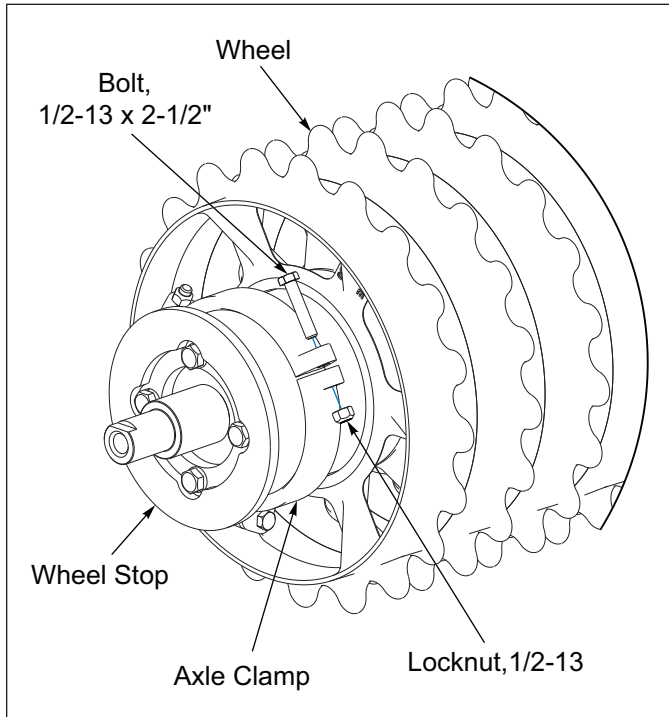
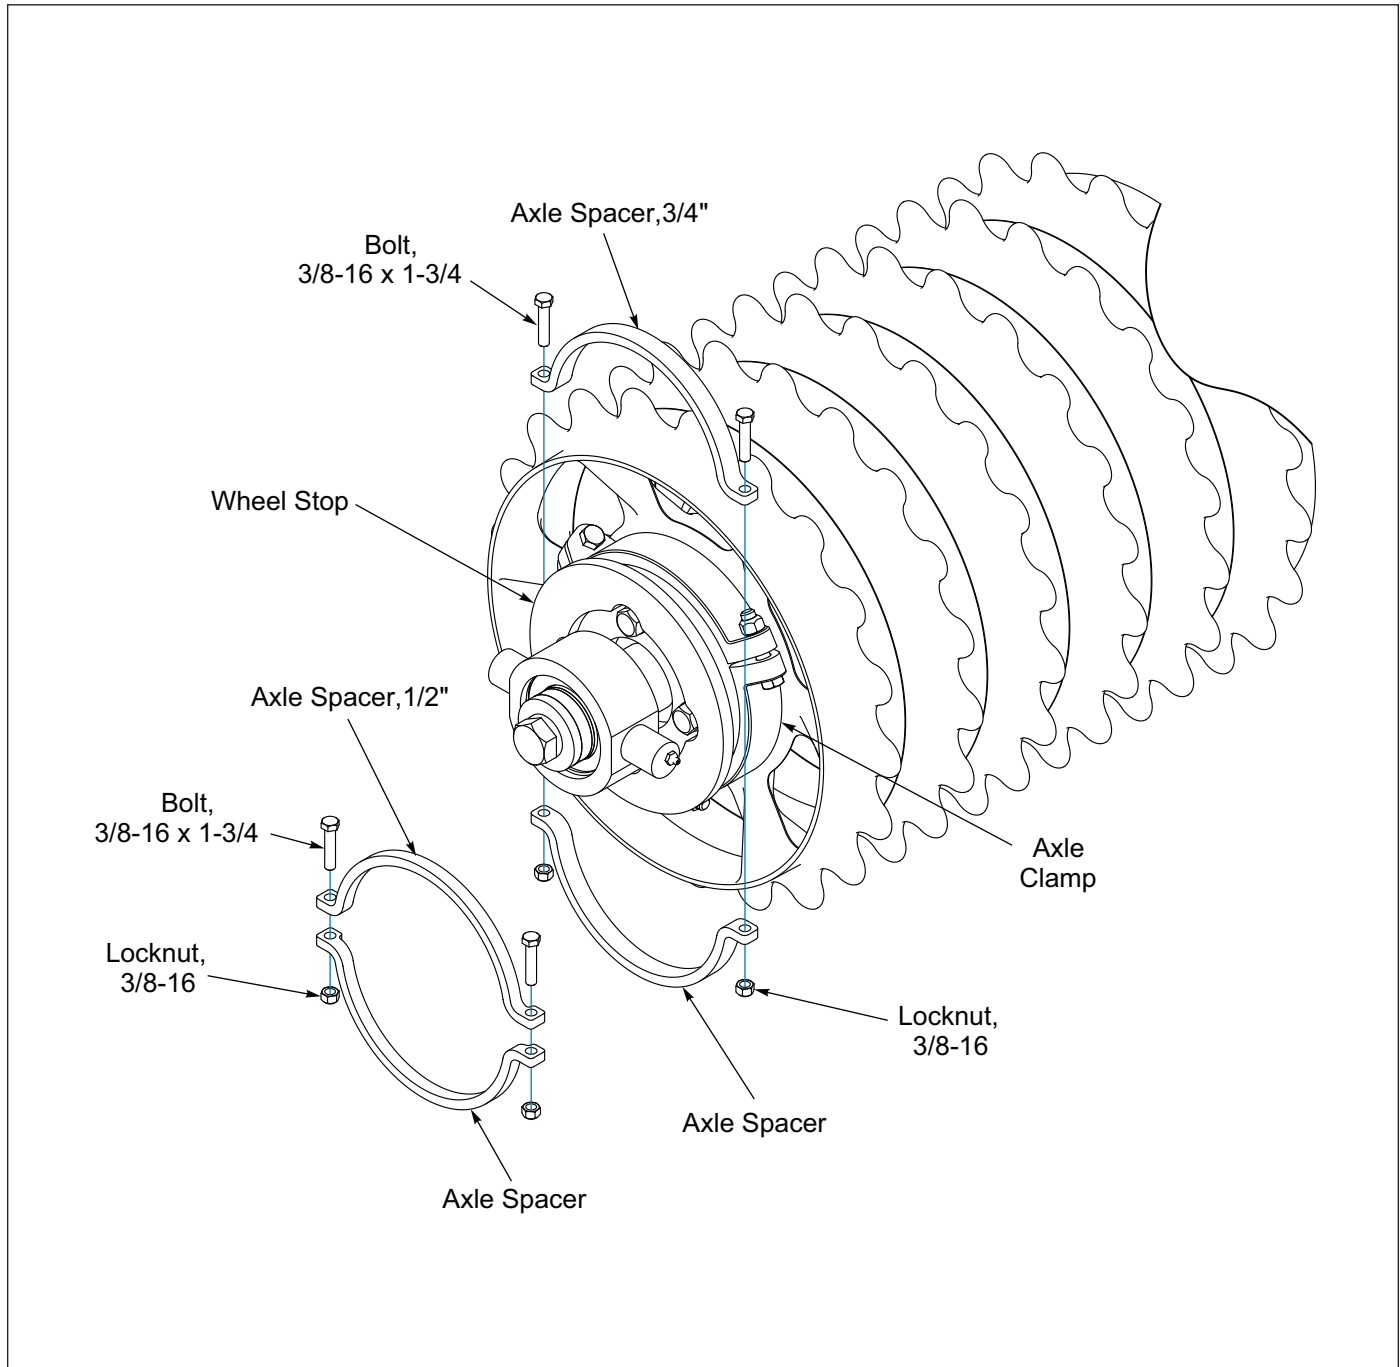

Figure 4-6: Roller Axle Assembly
Figure 4-9: Clamp End Spacer Kit, 1/2", 3/4" - Optional
After an initial run of 5-10 hours, check the Roller Axle Assemblies to ensure that the wheels are tight to one another. If not, starting at the welded stop end, slide the wheels tight together and adjust the Axle Clamps so that it's against the wheel. **See Figure 4-6.** If there is a gap between the Axle Clamp and Wheel Stop, install the appropriate clamp spacers. **See Figures 4-9 and 4-10.**
1. Place the two Axle Spacers between the Axle Clamp and the Wheel Stop. **See Figure 4-9.**